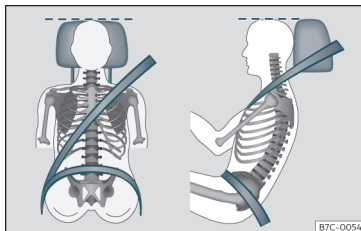

Fig. 72 Correctly adjusted head restraint as viewed from the front and the side.
- Adjust the head restraint so that its upper edge is, as far as possible, at the same level as the top of your head, or at the very least, at eye level >>> Fig. 72.